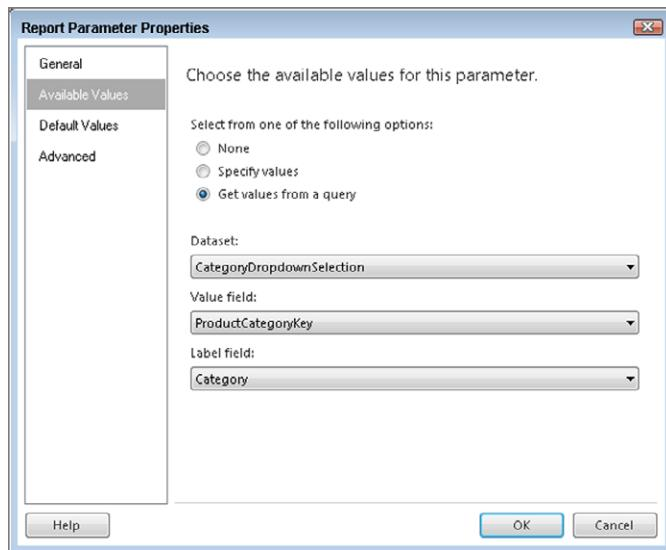

Figure 5-14
10. In the Label field, select the column you want displayed to the user when interacting with the parameter, then click OK. Figure 5-14 shows this step.